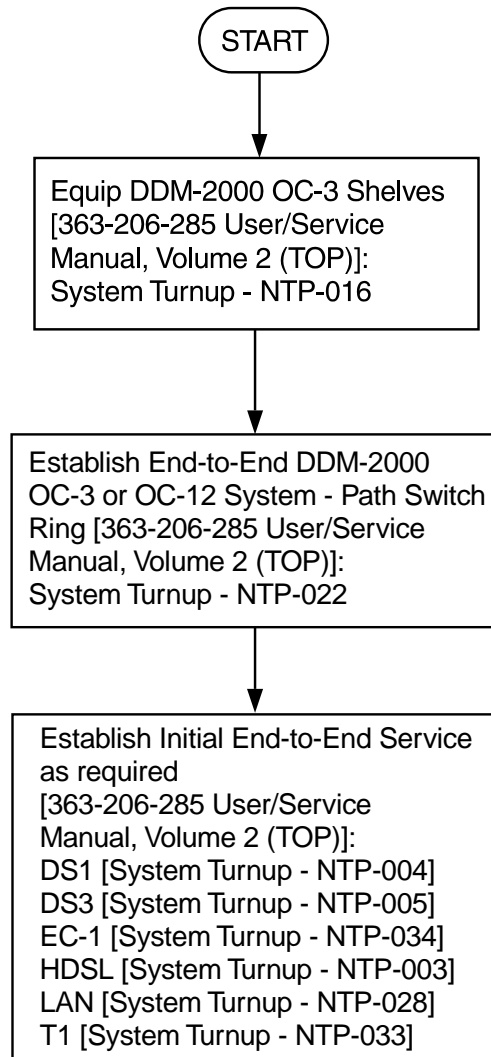

Figure 4 – DDM-2000/FT-2000 Large Network Configurations — DDM-2000 OC-3 or OC-12 Path Switched Ring
- Figure 4 DDM-2000/FT-2000 Large Network Configurations — DDM-2000 OC-3 or OC-12 Path Switched Ring